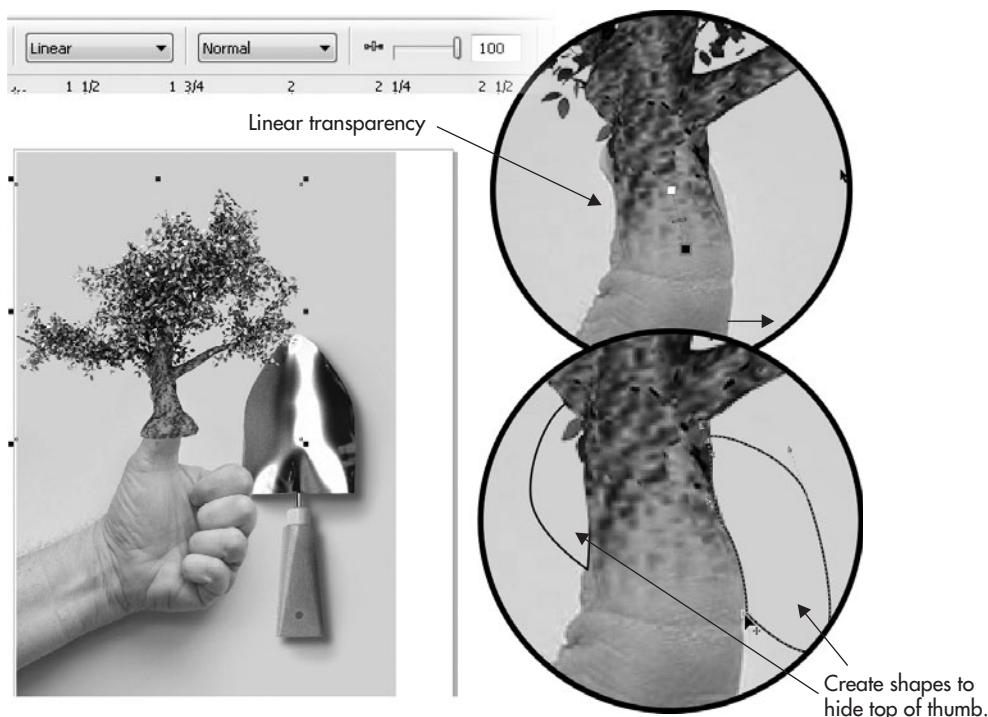

FIGURE 24-10 Create a blend between two photos to present unique and visually arresting imagery.
6. Click-drag starting from around the thumbnail area in the underlying photo to just above the trunk on the tree. You should see the amazing transformation between the guy's thumb and the trunk of the tree (see Figure 24-10). If the Start and End points for this Linear transparency aren't perfect, you can adjust the Start and End points with the Transparency tool cursor.